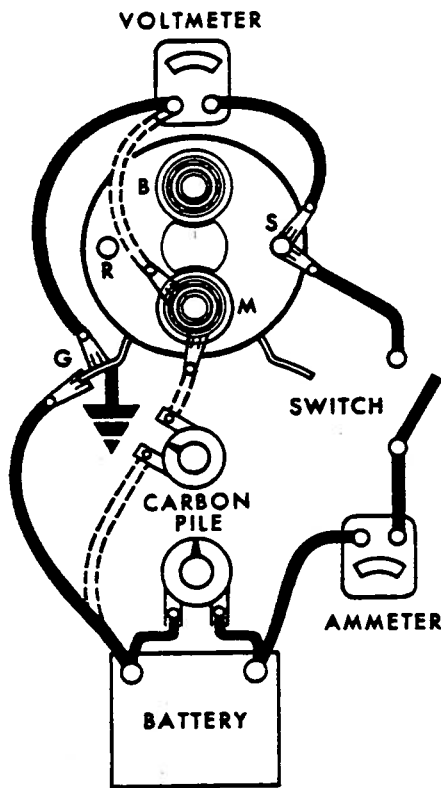

Figure 7-5. Connections for Checking Solenoid
1. Connect 12 volt battery, switch, and ammeter to two switch windings as shown in figure 7-5.
6. Connect voltmeter to switch "S" terminal and "M" terminal. See figure 7-5.